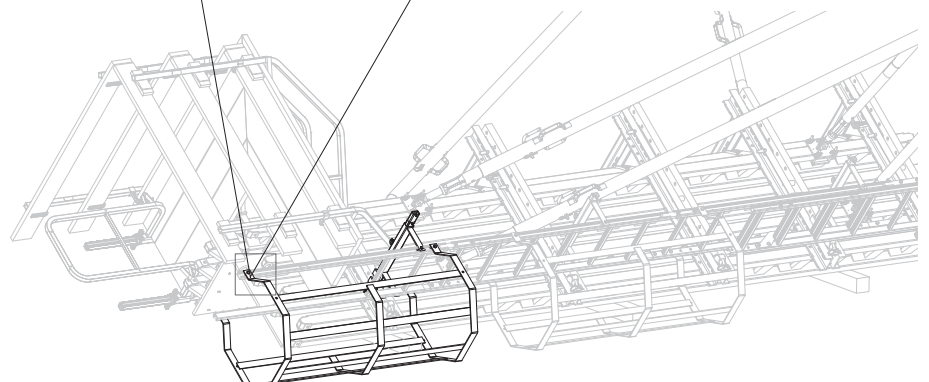

Fig. D3.07
6. Mount Ladder Safety Cage 75/150 with clamping plates according to plan. Depending on the situation, mount with overlapping ladder joints. (Fig. D3.07)